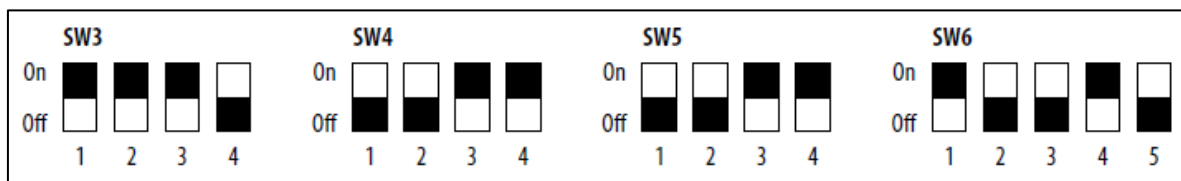

Figure 5-1. Arria 10 GX FPGA Development Board DIP Settings
5. Set the DIP switches (SW3, SW4, SW5, and SW6) on the Arria 10 GX FPGA Development Board as shown in Figure 5-1.